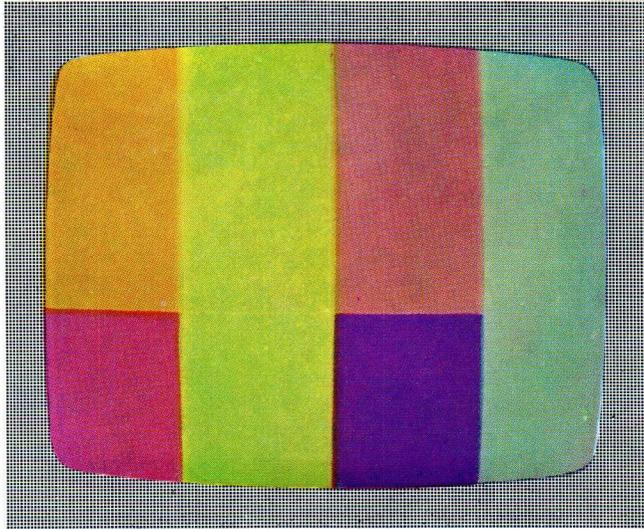

Fig. VII-21. Incorrect subcarrier phase to the (B-Y) demodulator
4. ● A colour difference between the upper and lower parts of bar 3 ( $(B-Y) = 0$ ) indicates an incorrect subcarrier phase to the (B-Y) demodulator. See Fig. VII-21. Readjust until the colour difference has been eliminated.